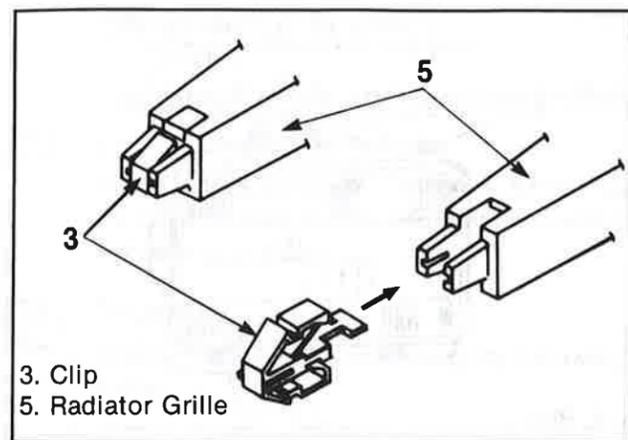

Figure 90. Radiator Grille Installation
1. Before attaching the radiator grille, be sure to attach clip (3) to radiator grille (5) (figure 90).